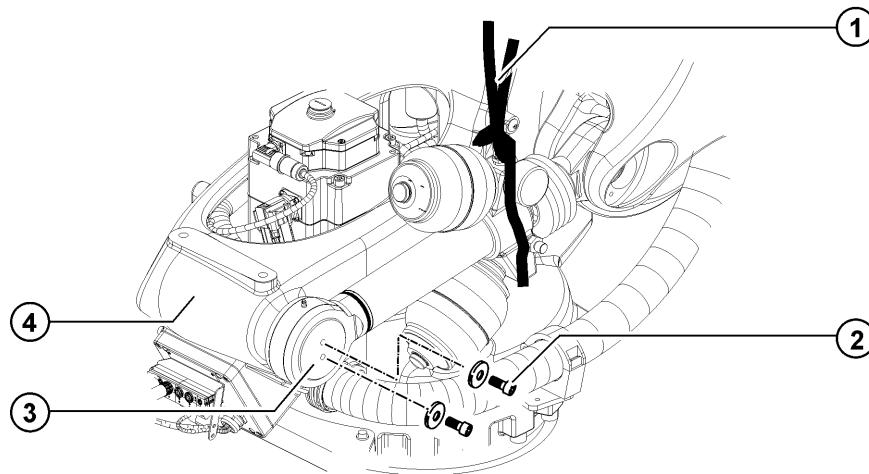

Fig. 11-24: Installing the counterbalancing system: rotating column
5. Lift the counterbalancing system with a rope sling and bring it to the site of installation (>>> Fig. 11-24).